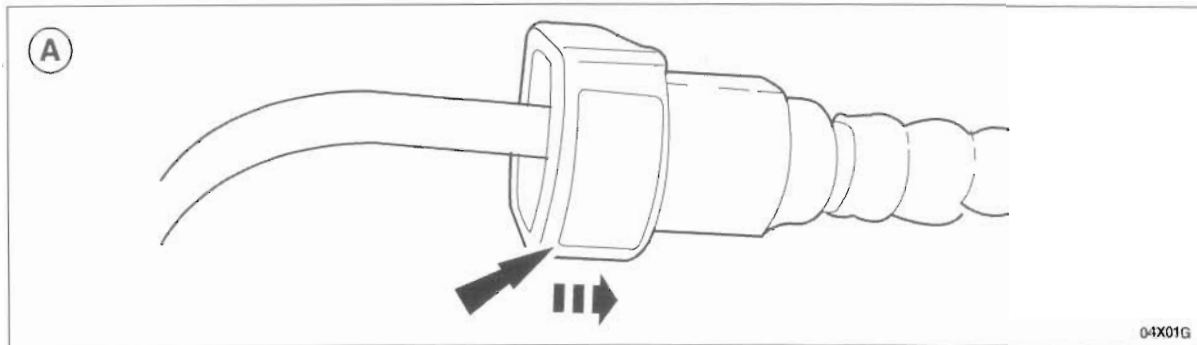

FIGURE 6
1. To disconnect: See Figure 6.